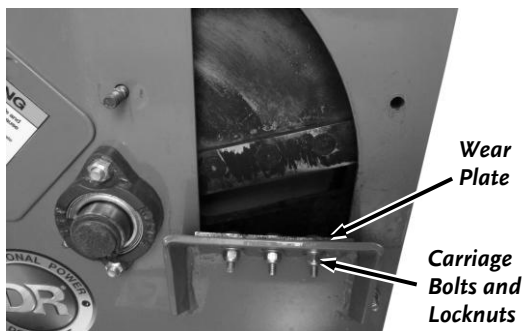

Figure 35
2. Remove the three Locknuts and Carriage Bolts that attach the Wear Plate to the Housing using a 7/16" Wrench and remove the Wear Plate (**Figure 35**).